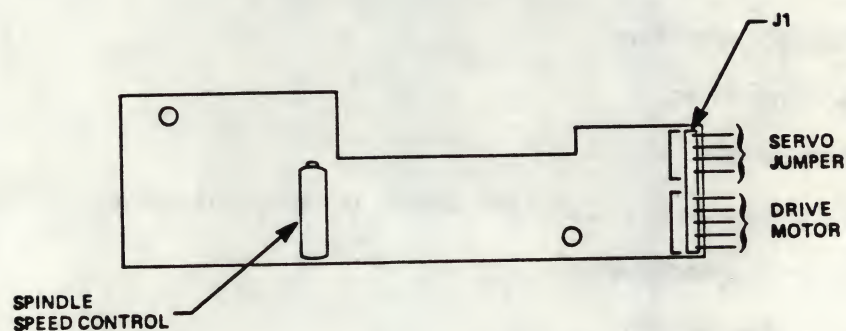

Figure 2-2
2.1.1.6 Adjust R4, located on the Servo PCBA, until the applicable pattern on the pulley appears stationary (see Figure 2-2).